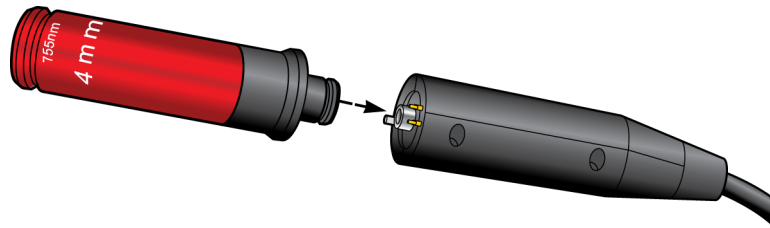

Figure 3-2: Connecting the Handpiece to the Delivery System Cable
2. Select the Handpiece to be used for the treatment and connect it to the Distal end of the Delivery System cable (see **Figure 3-2**). All three Handpieces connect in the same way.